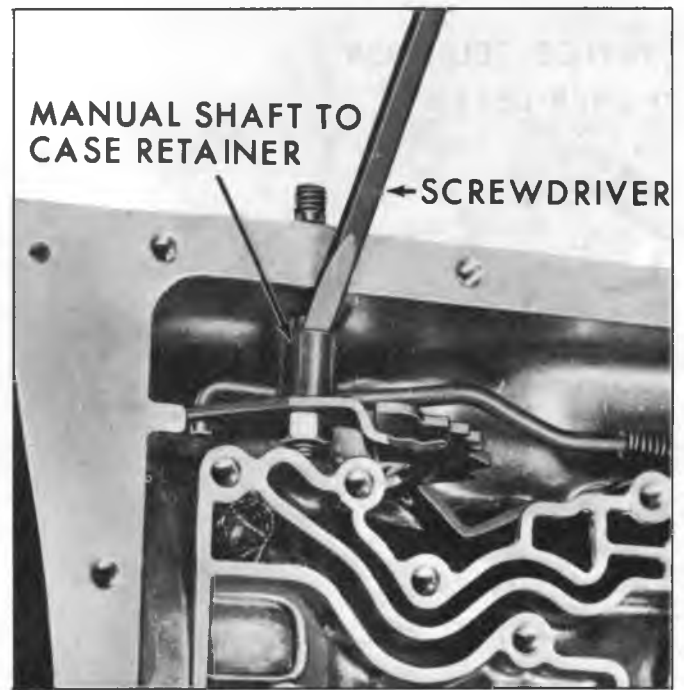

Fig. 19M--Removing Manual Shaft to Case Retainer
8. Remove manual shaft to case retainer with screwdriver (fig. 19M).